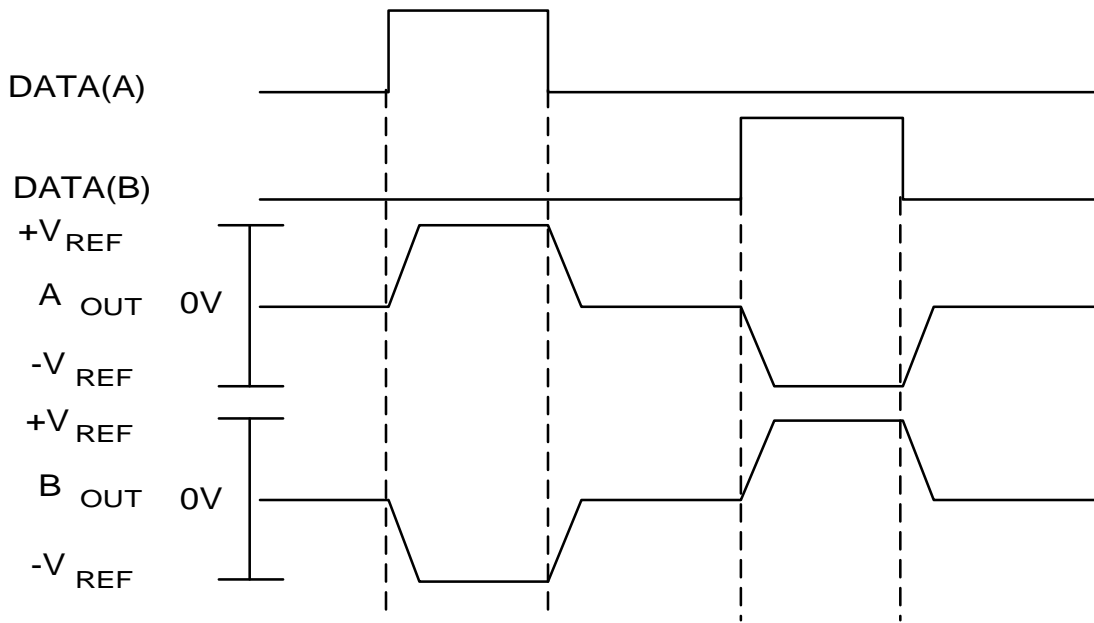

Figure 3 Input / Output Waveforms
Figure 3 shows the output waveform for the ARINC 429. The output slew rates are controlled by timing capacitors  $C_A$  and  $C_B$ . They are charged by  $\pm 200\mu\text{A}$  (nom.). Slew rate (SR) measured as  $\text{V}/\mu\text{sec}$ , is calculated by: